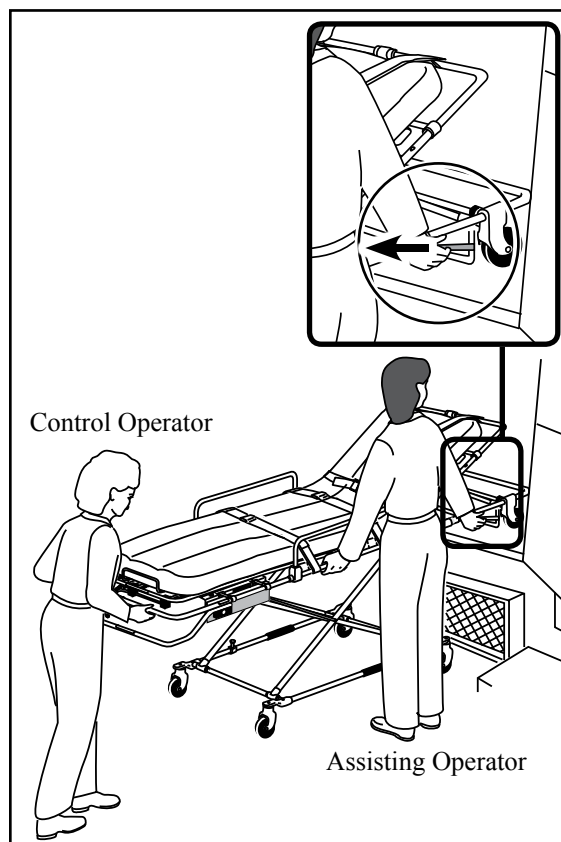

Figure 26 - Releasing the Safety Bar
7. **Assisting Operator:** Pull the safety-bar release lever toward the foot end of the cot to disengage the safety bar from the safety hook (Figure 26).